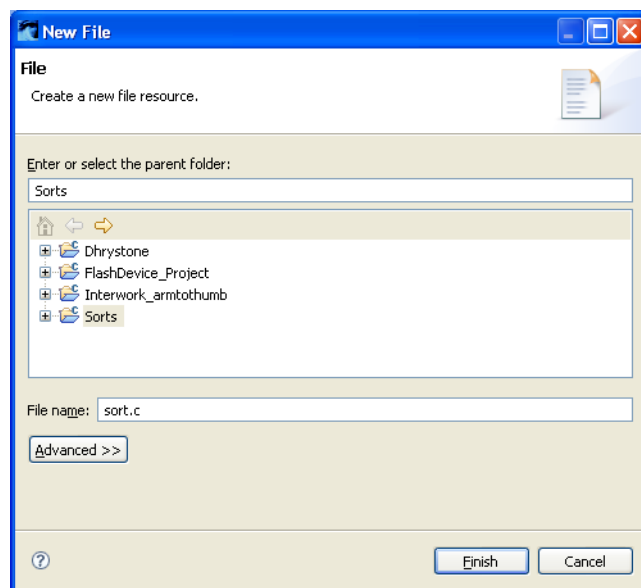

Figure 3-14 Naming your file
2. Select your project folder or sub-folder from the New File dialog box and enter a filename with the relevant extension in the **File name** text. See Figure 3-14.